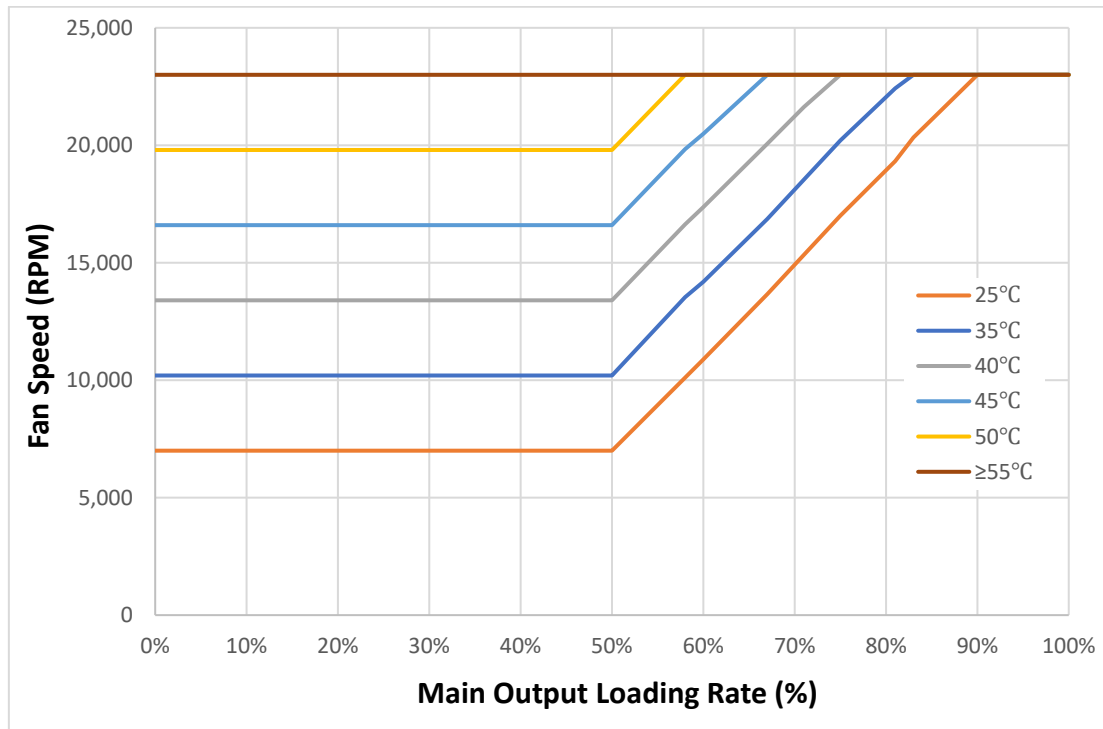

Figure 10. Fan speed versus main output load
- Load depending Fan Speed curve, see *Figure 10*.